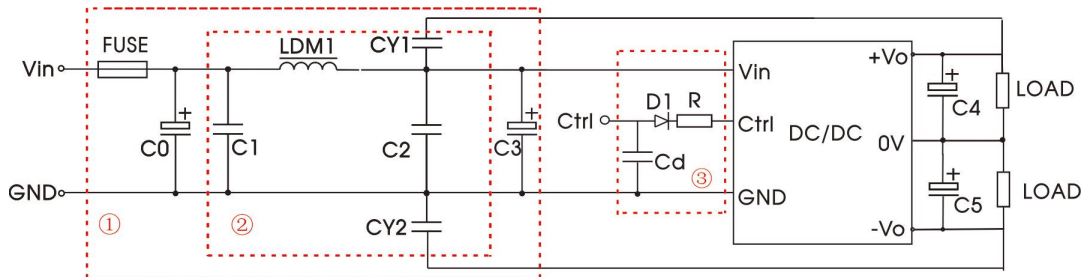

Fig. 3
① For EMC tests we use Part ① in Fig. 3 for immunity and part ② for emissions test. Selecting based on needs;
② V_C is the voltage of the Ctrl end relative to the GND of the input grounding; V_D is the positive-going conduction pressure drop of D1; I_C is the current flows into the Ctrl end and its value is generally 5-10mA, see Fig. 3-③ for the peripheral circuit of Ctrl end.